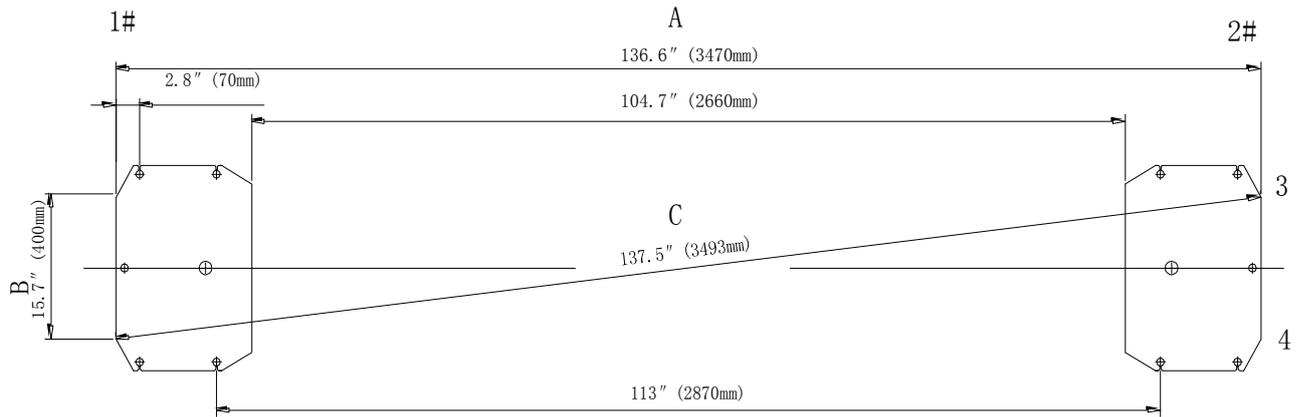
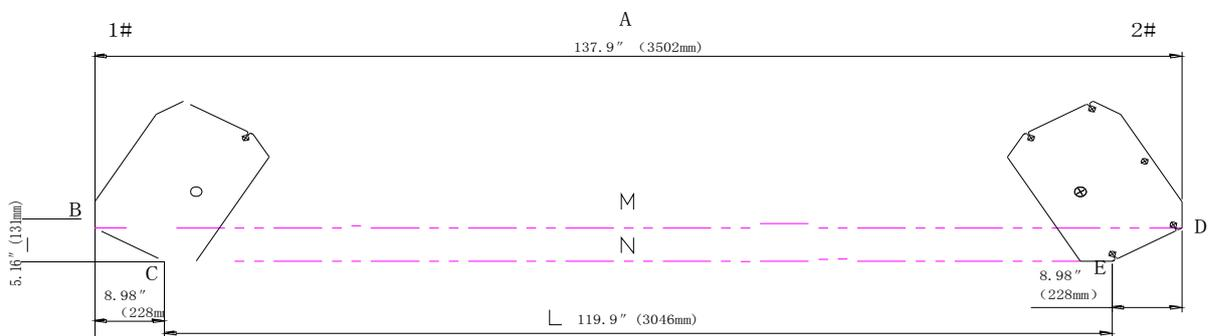

Figure 3 (W - 1 0 D E) TLT210-AS
Figure 4 TLT210-A
As shown in Figure 3 (symmetric installation).
For asymmetric installation see Figure 4.
- Recheck overall width dimension, fig. 3 or fig. 4. Drill the anchor holes using the baseplate as a template. Drill through the floor if possible or at least 6 inches minimum.